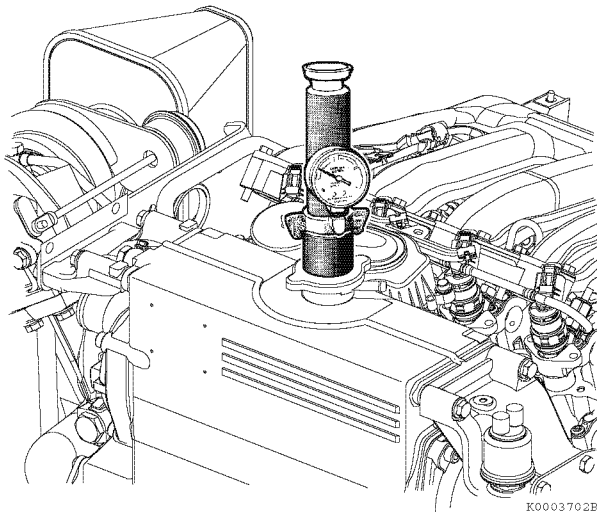

Figure 7-2
4. Pump until pressure is 1.45 bar (21 psi) (Figure 7-2).